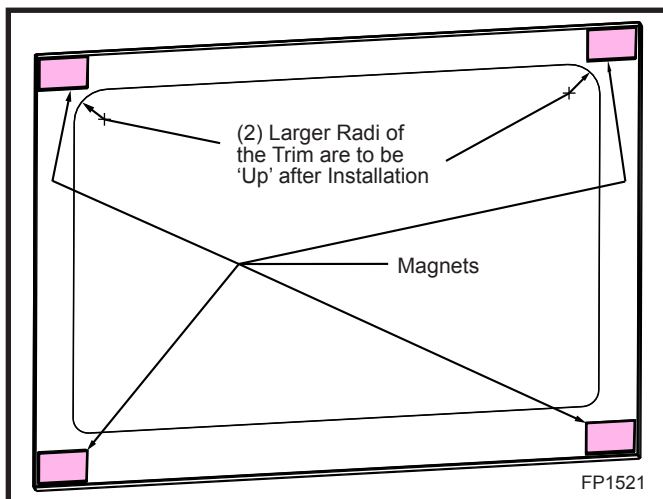

Fig. 52 RFSDV24TKG magnet locations.
3. Attach the magnets to the trim. (Fig. 52)